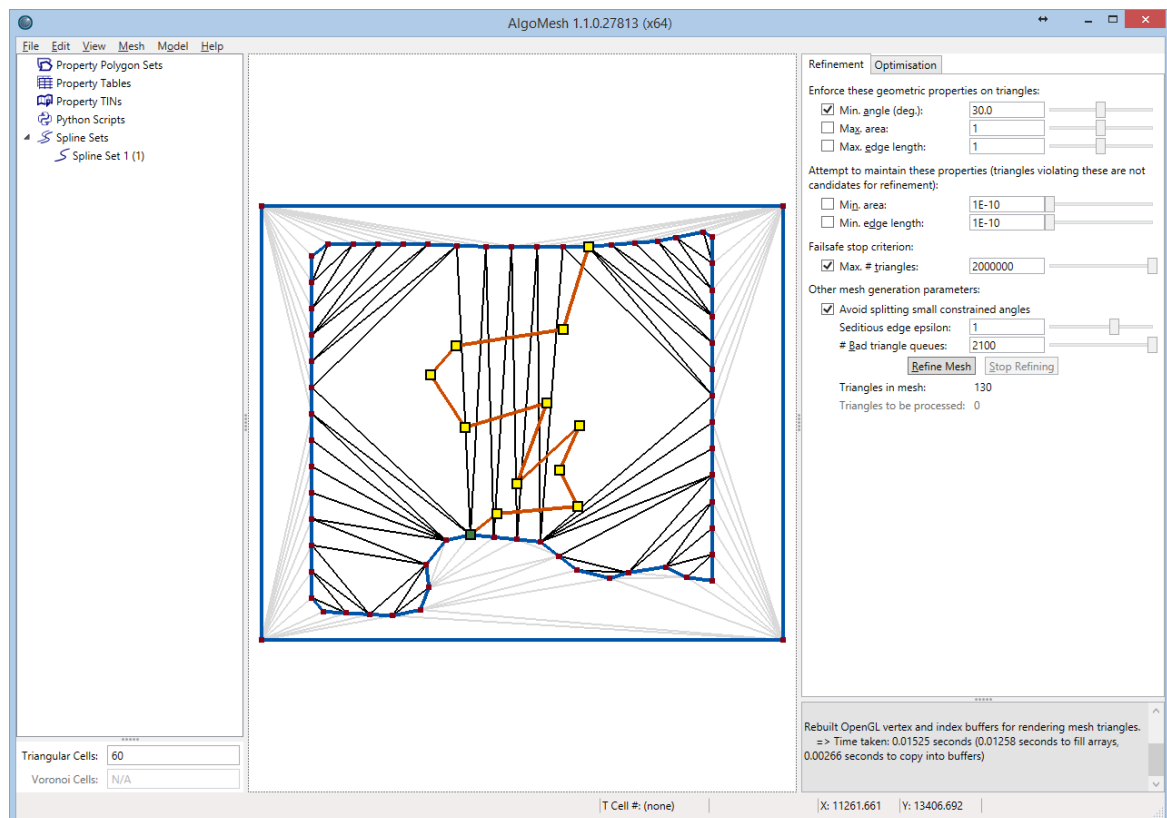

Figure 62: The manually-digitised river polyline.
- Holding down **Alt** on the keyboard, click with the **left mouse button** on one of the vertices along the top of the mesh extents polygon to start a new spline snapped to this point. See Figure 62 for reference.